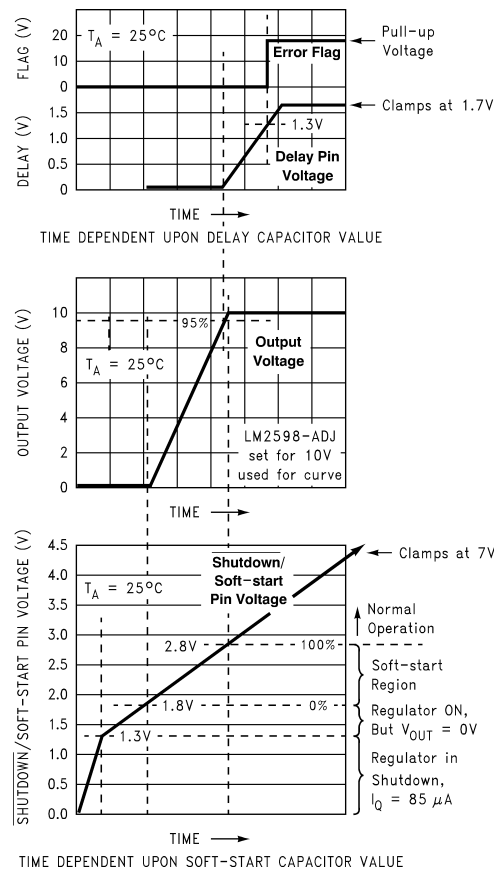
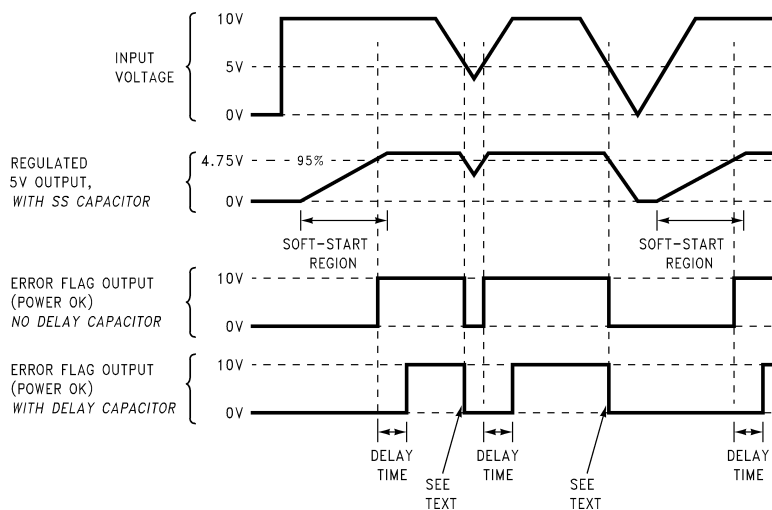

Figure 28. Soft-start, Delay, Error, Output
Figure 29. Timing Diagram for 5-V Output
A capacitor on this pin provides the regulator with a Soft-start feature (slow start-up). When the DC input voltage is first applied to the regulator, or when the Shutdown/Soft-start pin is allowed to go high, a constant current (approximately 5 μ A) begins charging this capacitor). As the capacitor voltage rises, the regulator goes through four operating regions (See the bottom curve in Figure 28).
3. Soft-start region: When the $\overline{SD}/SS$ pin voltage is between 1.8 V and 2.8 V at 25°C, the regulator is in a Soft-start condition. The switch (Pin 1) duty cycle initially starts out very low, with narrow pulses and gradually get wider as the capacitor $\overline{SD}/SS$ pin ramps up towards 2.8 V. As the duty cycle increases, the output voltage also increases at a controlled ramp up. See the center curve in Figure 28. The input supply current requirement also starts out at a low level for the narrow pulses and ramp up in a controlled manner. This is a very useful feature in some switcher topologies that require large start-up currents (such as the inverting configuration) which can load down the input power supply.
Note: The lower curve shown in Figure 28 shows the Soft-start region from 0% to 100%. This is not the duty cycle percentage, but the output voltage percentage. Also, the Soft-start voltage range has a negative temperature coefficient associated with it.
Provides delay for the error flag output. See the upper curve in Figure 28, and also refer to timing diagrams in Figure 29. A capacitor on this pin provides a time delay between the time the regulated output voltage (when it is increasing in value) reaches 95% of the nominal output voltage, and the time the error flag output goes high. A 3- μ A constant current from the delay pin charges the delay capacitor resulting in a voltage ramp. When this voltage reaches a threshold of approximately 1.3 V, the open collector error flag output (or power OK) goes high. This signal can be used to indicate that the regulated output has reached the correct voltage and has stabilized.